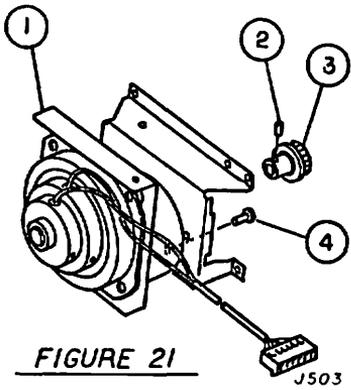

FIGURE 21
**LASERWRITER - MAIN MOTOR ASSEMBLY (Figure 21)**